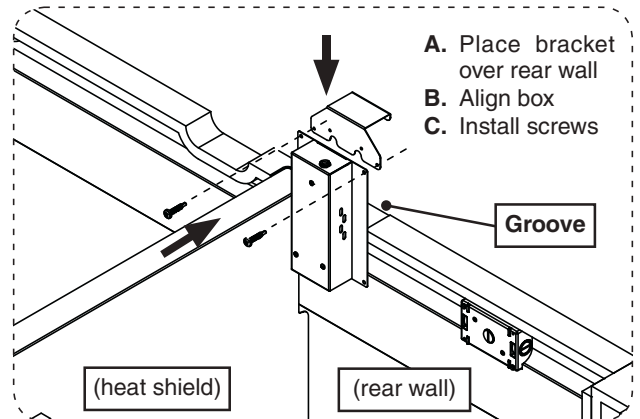

Fig. 10-2 Install power supply box
1. **First** place the power supply box bracket over the rear wall, in the groove just to the right of the heat shield (see Fig. 10-2).
2. Align the pilot holes on the power supply box with the holes on the bracket, then insert the two Phillips screws and tighten with the power drill and #2 Phillips driver (see Fig. 10-2). **DO NOT OVERTIGHTEN.**